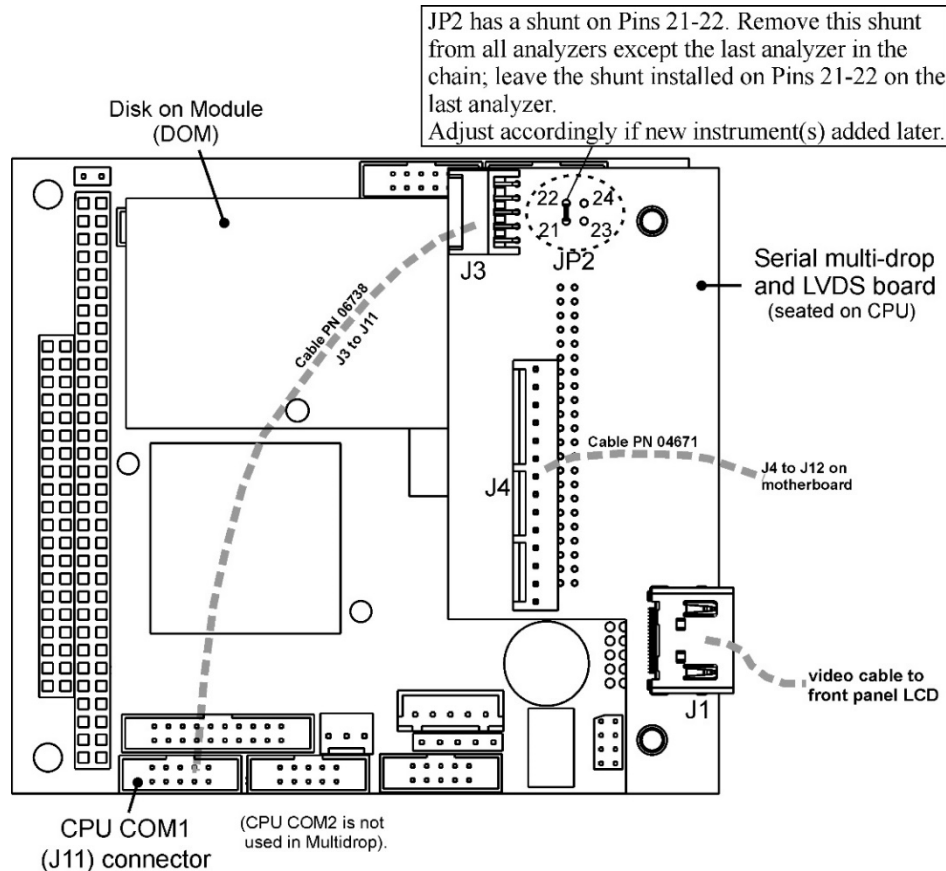

Figure 2-17. Jumper and Cables for Multidrop Mode
In each instrument with the Multidrop option there is a shunt jumpering two pins on the serial Multidrop and LVDS printed circuit assembly (PCA), as shown in Figure 2-17. This shunt must be removed from all instruments except that designated as last in the multidrop chain, which must remain terminated. This requires powering off and opening each instrument and making the following adjustments:
3. Check that the following cable connections are made in *all* instruments (again refer to Figure 2-17):